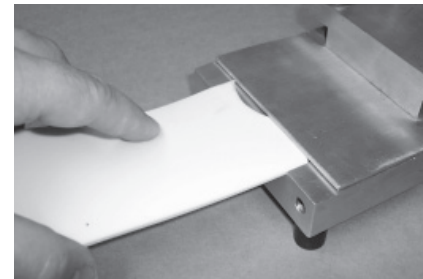

Fig. 7
9. Insert the end of the band with the indicator mark into the welding fixture. See Fig. 7. Make sure the indicator mark lines up with the end of the welding fixture and tighten wing nuts until band is held in place.